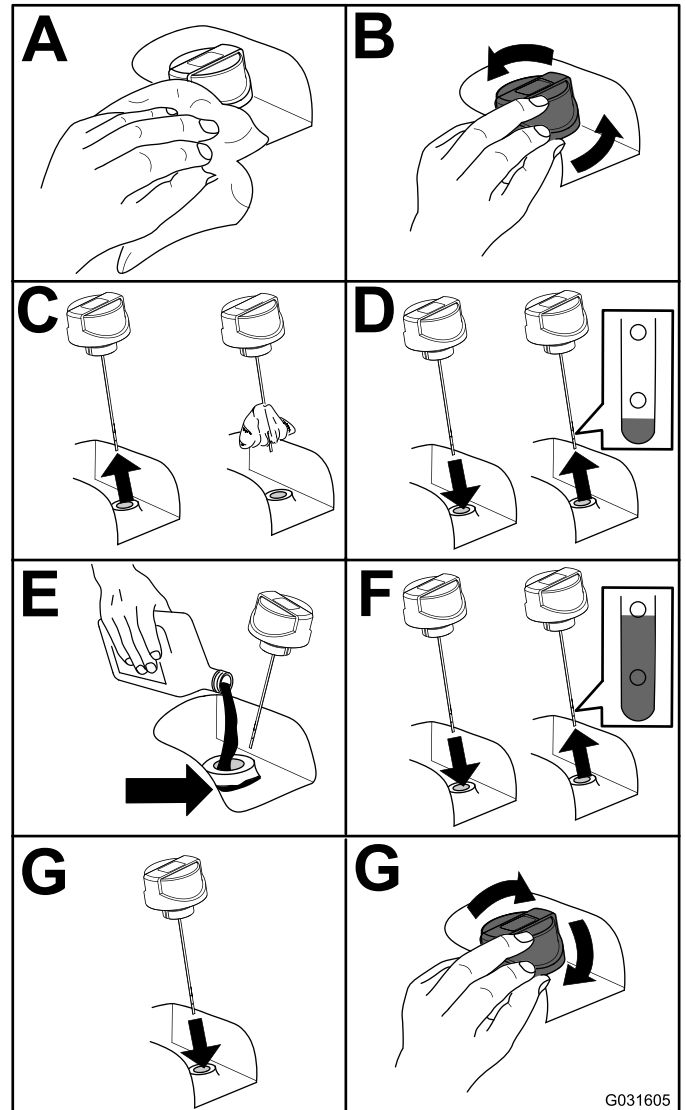

Figure 86
2. Check the hydraulic-fluid level (Figure 86).